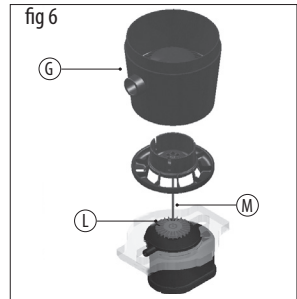
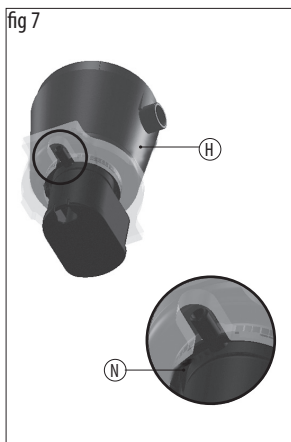

fig 7
fig 8
- Make sure the fitting on the impeller cover (H) corresponds to the connection for the air intake tube on the air intake chamber and click on (N) –fig.7. Connect the pump chamber (G) with the foaming chamber and the foaming tube (C) –fig.8